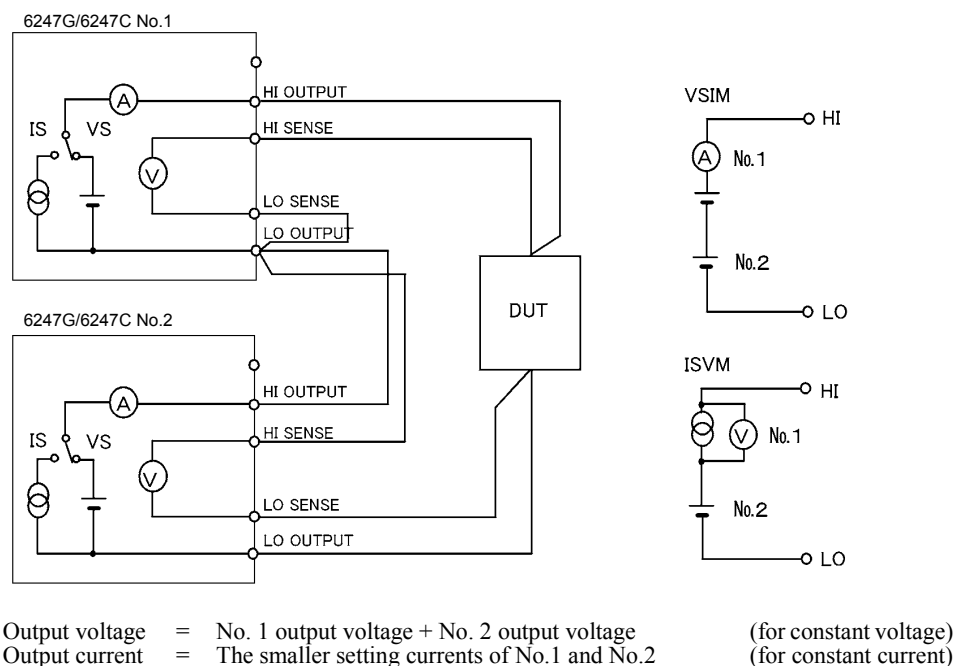

Figure 5-16 Serial Connection
3. *When using constant current, the smaller setting current of No.1 and No.2 becomes constant current as in Figure 5-16. The other one becomes the constant voltage.*